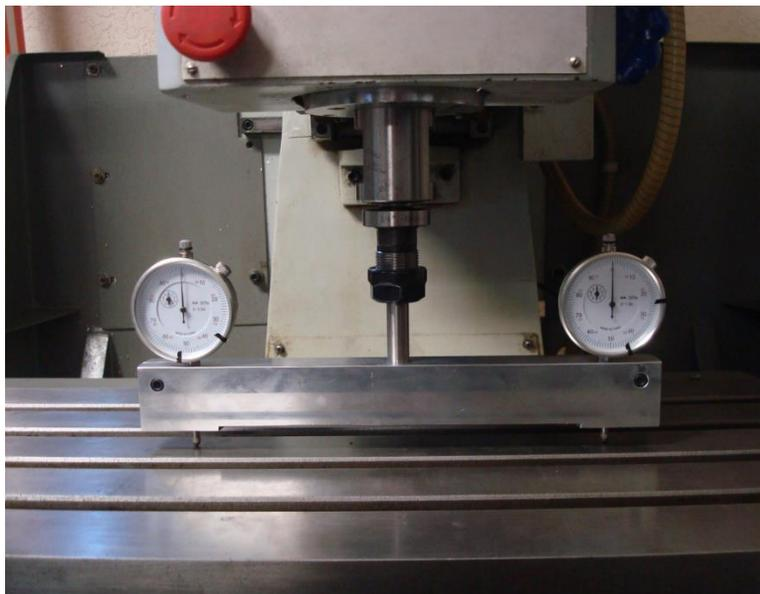

Figure 7-1 Dual Dial Indicators
- 2) Mount a dual dial indicator in the spindle of your machine (Figure 7-1).